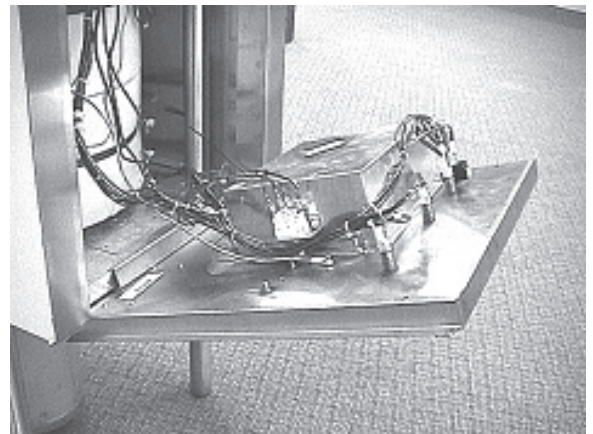

Figure 1
3. Lower the top of the panel slowly forward and secure it in an open position with the rear edge of the panel resting on the lower edge of the access opening (**see Figure 1**).